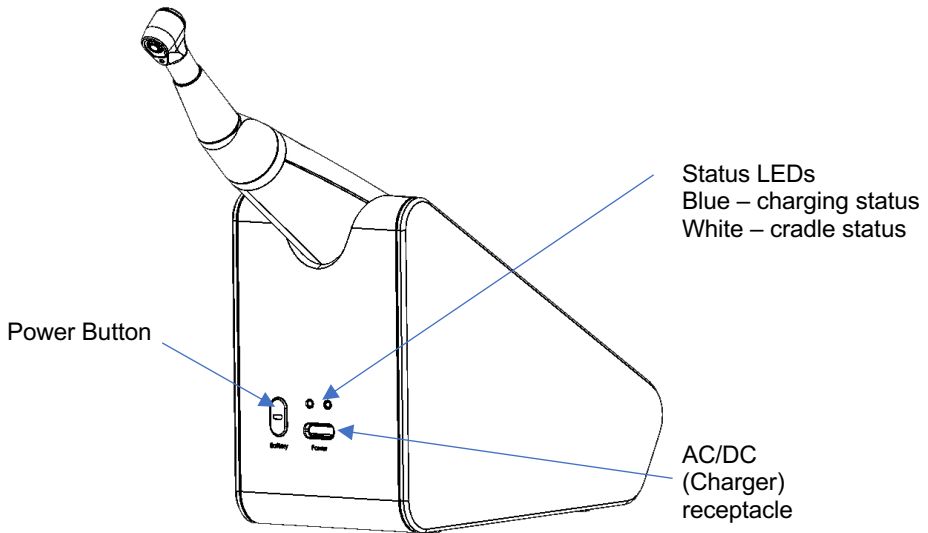

Fig. 2 Rear view
- Connect the charger cable to the charging receptacle on the cradle (see Fig. 2). Plug the charger into the power outlet.